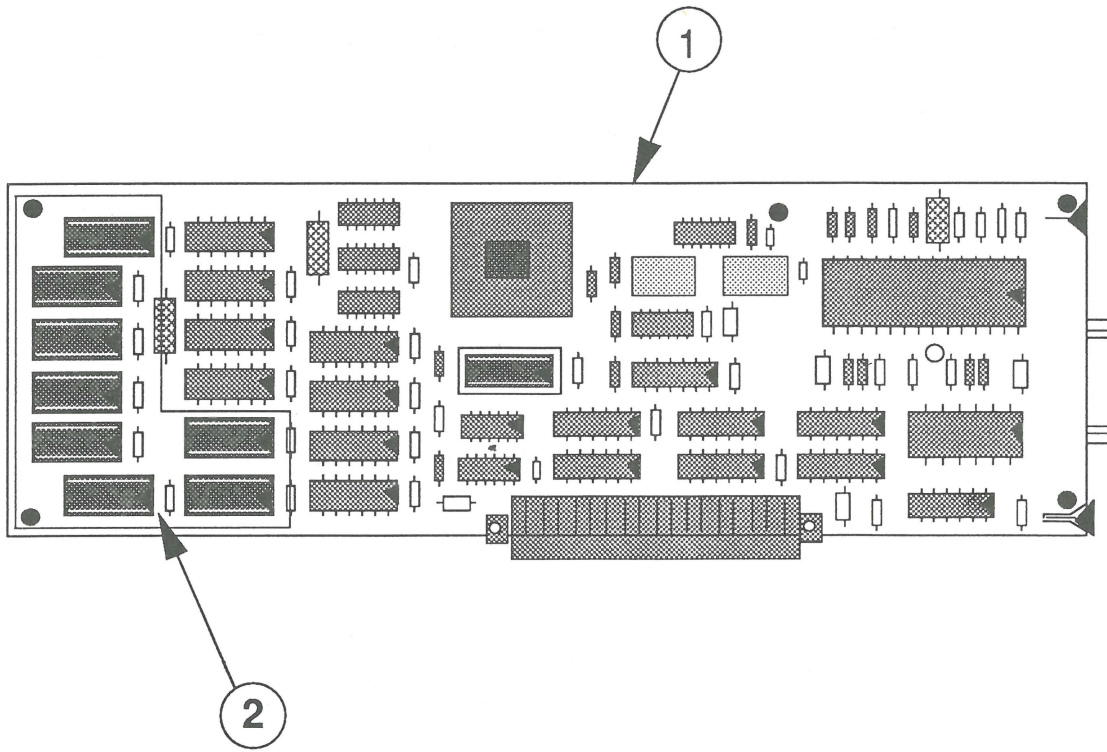

FIGURE 1
IPL.3	Video Card—12-inch B/W and 13-inch RGB (Figure 1)
□ VIDEO CARD—12-INCH B/W and 13-INCH RGB (Figure 1)